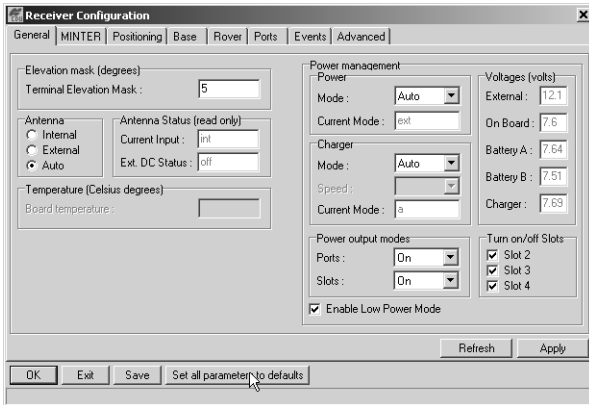

Figure 3-6. Set All Parameters to Defaults
6. Click **Set all parameters to defaults** located at the bottom of the dialog box (Figure 3-6).